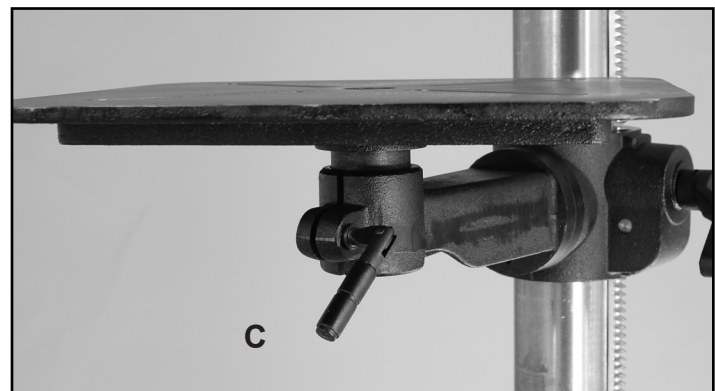

FIG. 14
4. *TO ROTATE THE TABLE* left or right, loosen the Locking Handle (#18A) that is positioned directly below the table. FIG. 14, C.